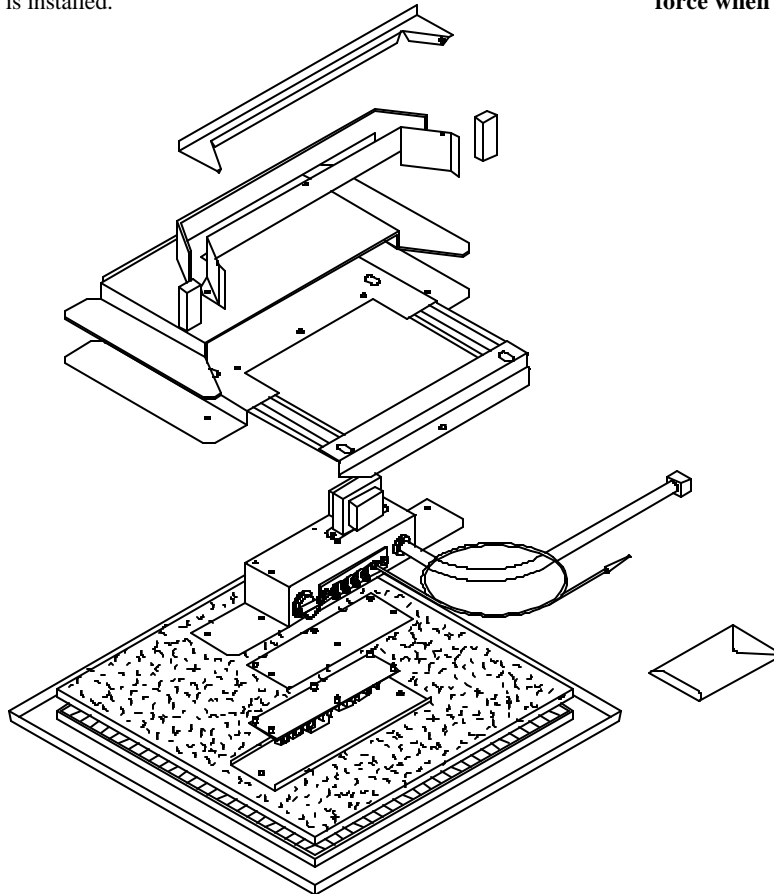

FIGURE 6
1. Remove ceiling assembly electrical box cover. Retain screws for reattachment. See Figure 6.